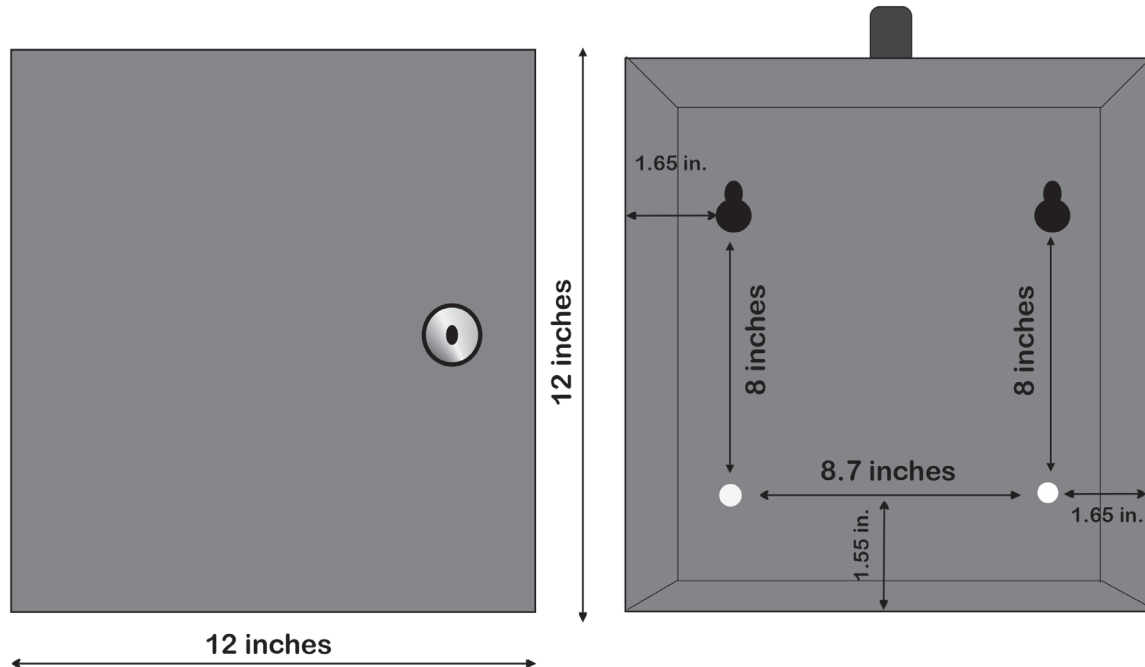

Figure 2: Inside & Outside Mounting Dimensions for the 4555
Position the bottom of the 4555 enclosure where it will be installed. Use four (4) #6 screws and mount the unit using the four holes in the enclosure's plastic bottom. The 4555 unit's dimensions are shown in Figure 2.